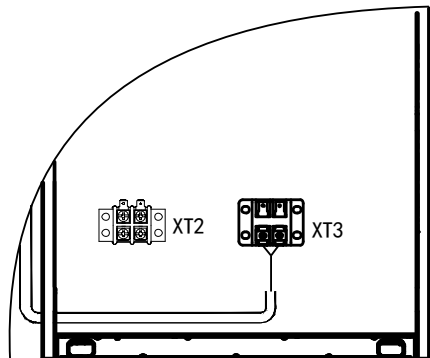

Fig.3-3 Water pump ON/OFF signal output
- 1) Each unit has configured a dry contact terminal for central control of the water pump (see Fig.3-3), this terminal can not